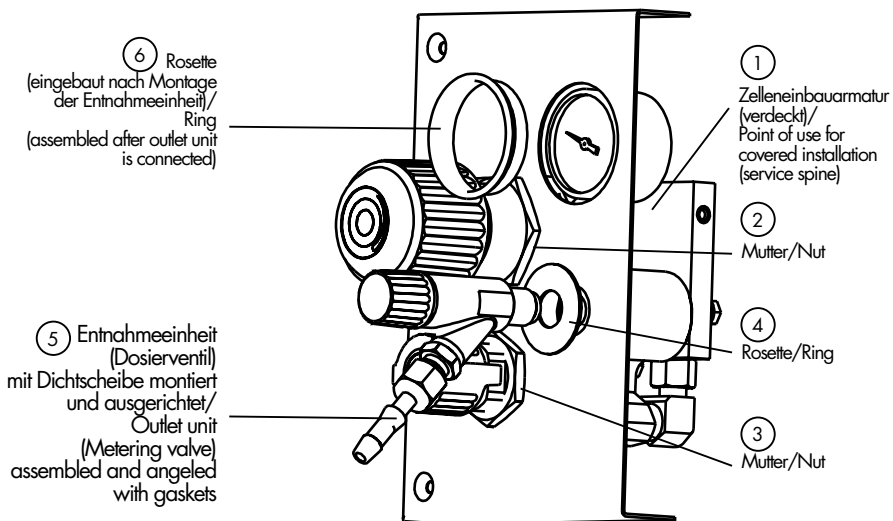

Abb. 4 / Fig. 4
6.6.3.2 Montage Zelleneinbauarmatur (Abb. 4):
6.6.3.2 Assembly point of use for covered installation (service spine) (Fig. 4):